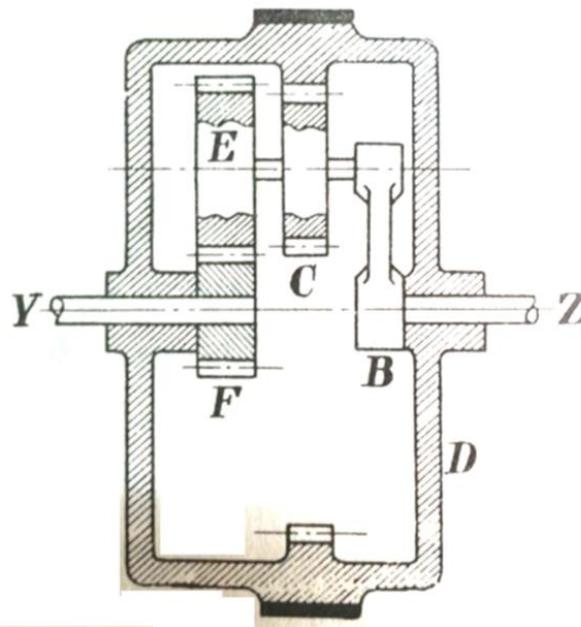

Figure Q4A
- 3B.** With neat sketches explain the various types of kinematic pairs based on the type of relative motion between the elements. (3)
- 3C.** Explain working of Reverted gear train arrangement with neat sketch. (2)
- 4A.** An epicyclic gear is shown in figure Q4A. The shaft Z is driven by an arm B (5) which is keyed to it. The two gears C and E which are cast in one piece, rotate on a pin carried on the arm B. The pinion C gears with the fixed annular wheel D and E is driven by the gear F on the shaft Y. The number of teeth are: $D=60$, $C=16$, $E=24$, $F=20$. The shaft Y runs at 600 rpm and transmits a torque of 120 Nm. Calculate: